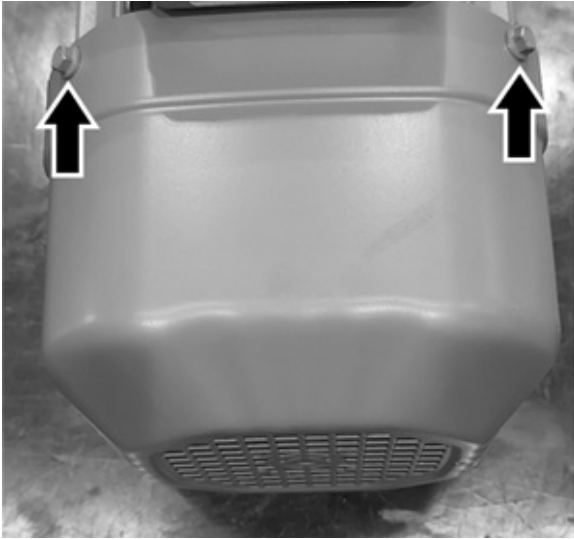
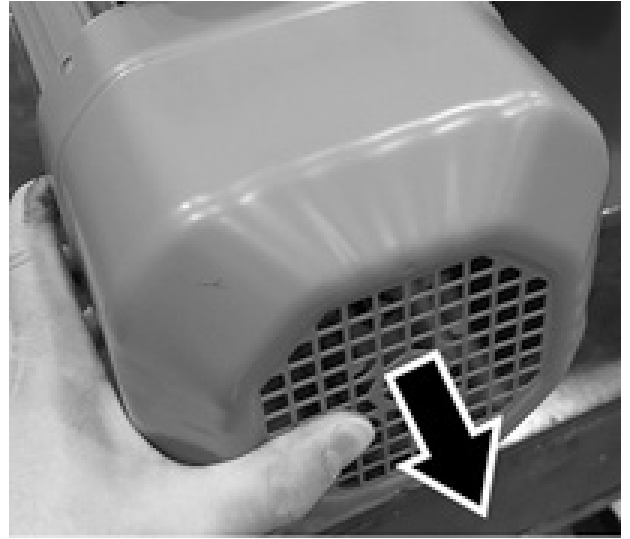

Figure 6.
Figure 7.
1. Remove the cover of extended shaft (refer to Figure 6 and Figure 7).